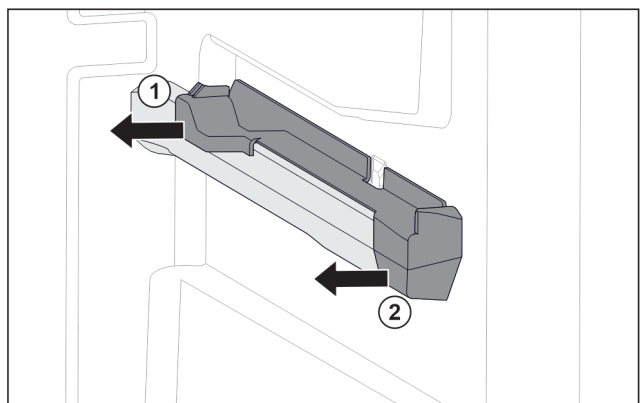

Fig. 148 Attachment on the right moulded rib
- ▶ Pull off attachment at the back sideways. *Fig. 148 (1)*
- ▶ Pull off attachment at the front sideways. *Fig. 148 (2)*